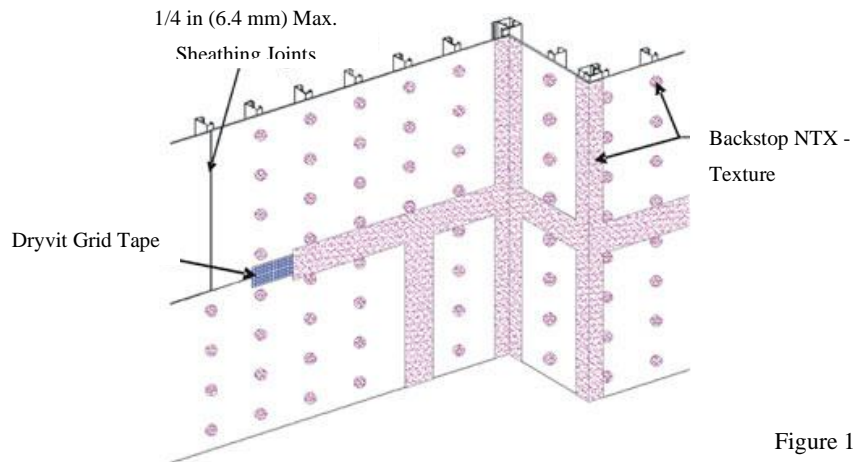

Figure 16
4. Mix the Backstop NTX – Texture material as described in Section 3.B.2. Using a stainless steel trowel or spatula, apply a layer of Backstop NTX – Texture over the Dryvit Grid Tape and spot all fastener heads – Figure 16. **NOTE: Dryvit Grid Tape is not necessary over fastener heads.**